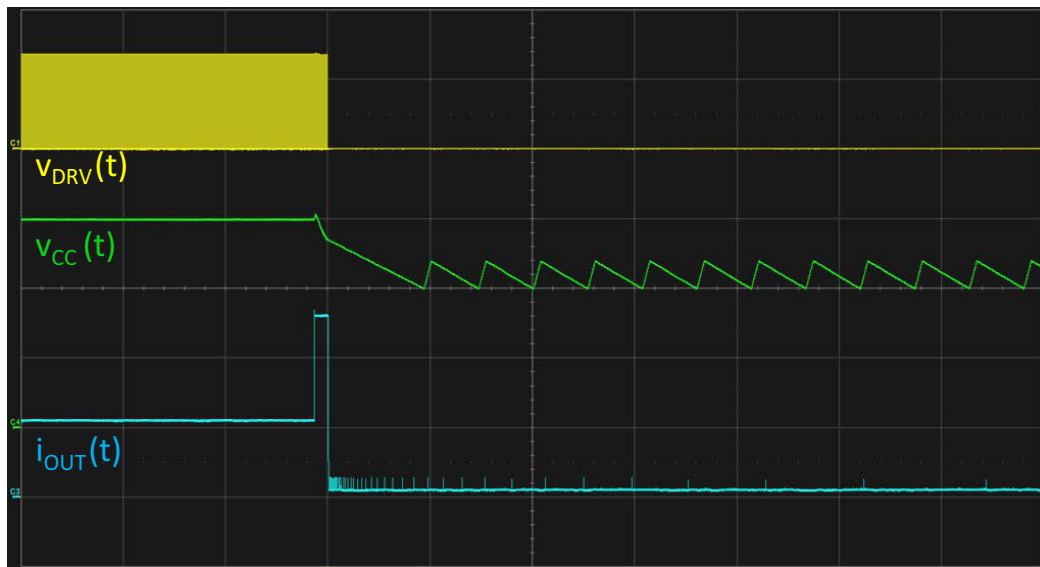

Figure 8. Latching Mode
- **Latching Off:** when the 64 ms timer elapses, the controller enters in endless hiccup mode meaning that V_{CC} will be charged and discharged between $V_{CC(on)}$ and $V_{CC(min)}$ thanks to the HV current source (Figure 8). The only ways to reset the controller and have a new start-up sequence is to unplug to PSU ($V_{CC(reset)}$ or BO even will be detected).